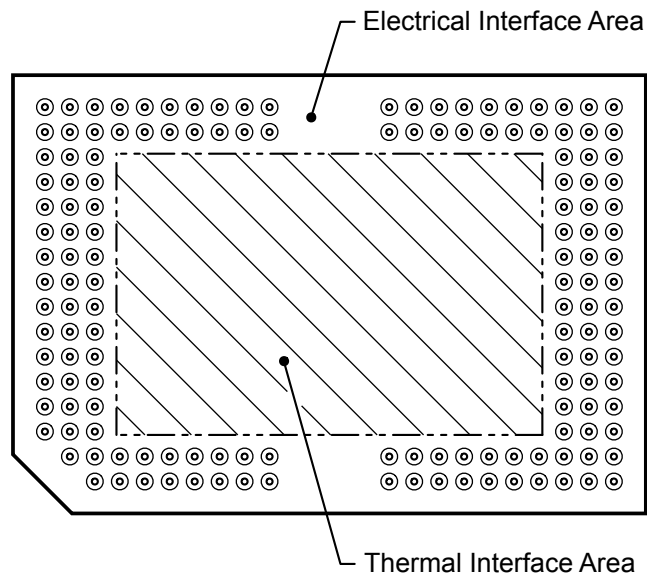

Figure 5-14. System Mounting Interface Loads
(1) The load should be uniformly applied in the corresponding areas shown in Figure 5-14.